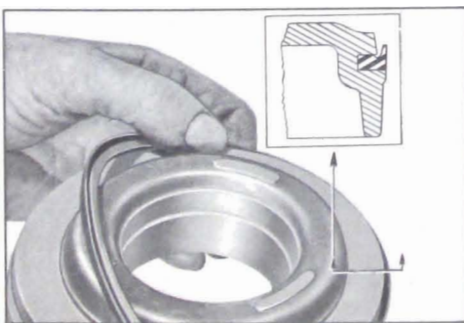

Figure 5-90—Replacement of Clutch Piston Outer Seal
4. Inspect clutch piston outer seal and replace if hardened, broken, or has turned edges. Install new seal with lip extending over the smaller diameter land of piston. See Figure 5-90.